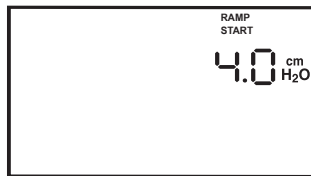

Figure 6–10 Ramp Start Setting Screen
1. From either the Monitoring or Standby screens, press the Right User button until the Ramp Start Setting screen appears, as shown in Figure 6–10.